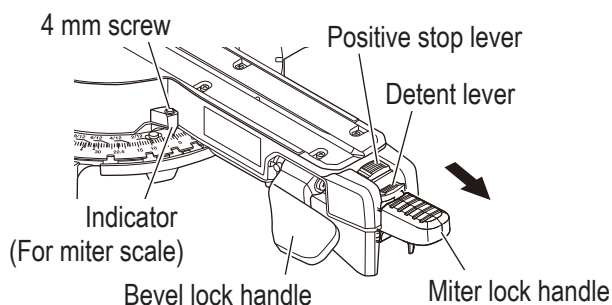

Fig. 16
The slide compound miter saw scale can be easily read, showing miter angles from 0° to 45° to the left and right. The miter saw table has nine of the most common angle settings with positive stops at 0°, 15°, 22.5°, 31.6°, and 45°. These positive stops position the blade at the desired angle quickly and accurately. Follow the process below for quickest and most accurate adjustments. (**Fig. 16**)
- (1) Push up the miter lock handle to release the turntable.
- (2) Push down the positive stop lever until the detent lever catches on it to release the “positive stop”.
- (3) Rotate the turntable and set the indicator to line up with the desired angle of the miter scale. At this time, when using the positive stop function, pull the detent lever in the direction of the arrow near the desired angle as shown in **Fig. 16**, release the detent lever, and move the turntable to secure it in place at the desired angle via the positive stop function. (0°, 15°, 22.5°, 31.6°, and 45°)
- (4) Push down the miter lock handle to secure the turntable in place.
Detent lever (**Fig. 16**)